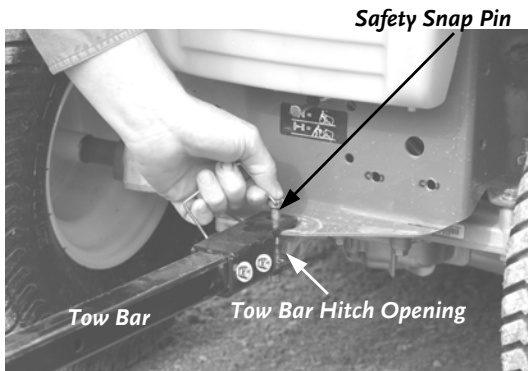

Figure 14
1. Set the parking brake on your Lawn Tractor, lift the Tow Bar, and position the Tow Bar Hitch so that the Hitch Plate on your Lawn Tractor is in the opening in the Tow Bar Hitch (**Figure 14**).
2. Align the hole in the center of the Hitch Plate on your Lawn Tractor with the holes in the Tow Bar Hitch. Insert and secure the Safety Snap Pin (**Figure 14**).